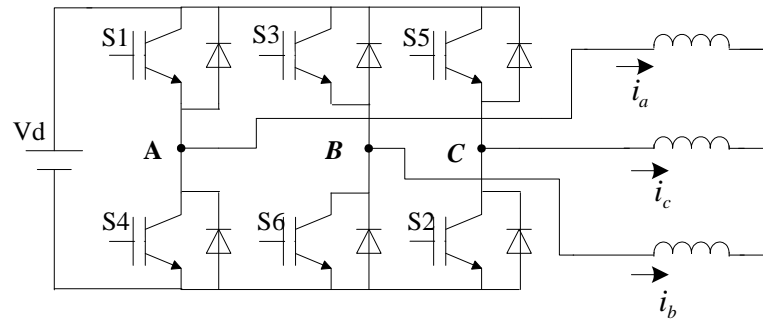

Figure 4.2 Voltage Source Inverter
- b. The Voltage Source Inverter shown in figure 4.2 works in SIX-STEP mode and supplies an induction motor. The rms value and frequency of the fundamental component of the output line to line voltage are 460V and 50Hz, respectively. The power factor of the load is 0.86.
b.iii. Select the most appropriate value of the voltage at the dc terminals of the inverter shown in figure 4.2.